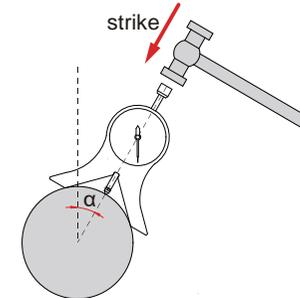

fig.2
- Confirm another angle position that needs to be marked, such as the angle requirement of  $\alpha=30^\circ$  for two points. Adhere the locator to the workpiece, slightly swing the locator to maintain the dial reading at 30°, and gently strike the punch to mark the position (fig. 2).